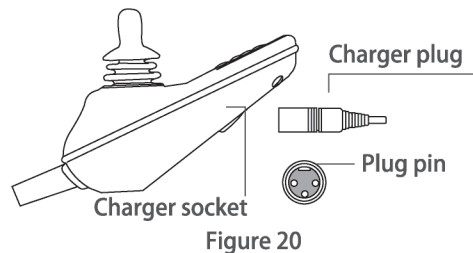

Figure 20
- ▶ Insert the output plug of the charger into the lower slot of the controller, see Figure 20.